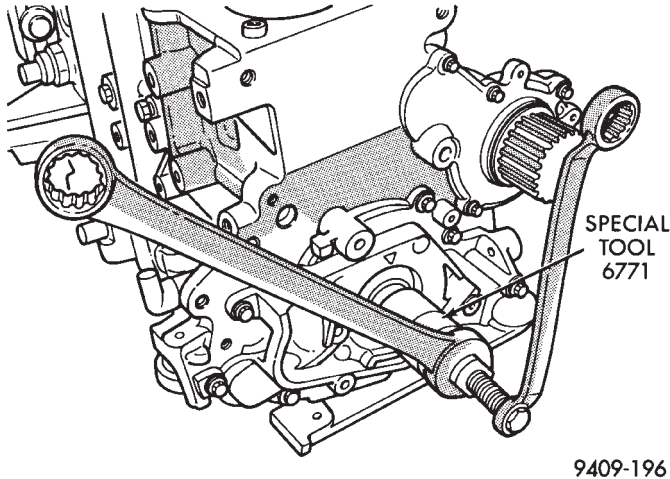

Fig. 67 Front Crankshaft Oil Seal—Removal
(4) Using Tool 6771 to remove front crankshaft oil seal (Fig. 67). Do not damage the seal contact area on the crankshaft.